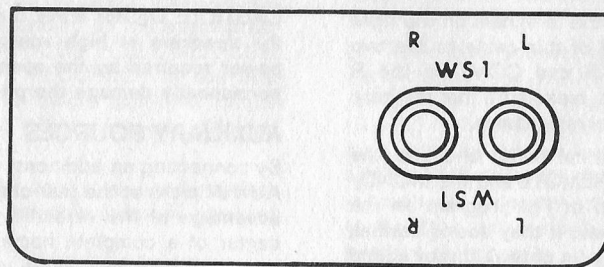

Figure 2. Bottom-Rear Panel of Receiver and WS-1 Bracket.
The built-in dipole antenna is connected to the receiver's FM NORM terminals at the rear of the console (Figure 2). If listening tests reveal that the receiver is being overloaded by a nearby FM transmitter or that the built-in antenna is not adequate for your locality, reception can be greatly improved by changing antenna connections or by replacing the antenna as described in the following paragraphs:
If listening tests reveal that the built-in ferrite-loop antenna is not adequate for AM reception in your locality, connect 10 to 20 feet of flexible, single-conductor wire to the AM terminal at the rear of the console (Figure 2). Run the wire in a straight line along a *non-metallic* baseboard or under a rug; in some cases, reception may be improved even further by draping the antenna wire out a window.
- (1) Turn off the console and disconnect its power cord from the electrical outlet.
- (2) Place the WS-1 speakers to the right and left of the console as described in the WS-1 Operating Instructions.
- (3) There are two WS-1 jacks (marked L and R respectively) bracket-mounted at the rear of the console (Figure 2). Connect the plug on the left speaker's cable to the jack marked L and the plug on the right speaker's cable to the jack marked R.
- (4) Connect the console's power cord to the electrical outlet and turn on the unit.
The REMOTE SPKR terminals at the rear of the console (Figure 2) provide convenient means for connecting a pair of remote extension speakers. This arrangement will enable you to enjoy stereophonic sound in another room of your home whenever you set the SPEAKERS switch on the control panel to REMOTE.
By connecting an additional *high-level* stereo or mono source to the AUX IN jacks at the rear of the console (Figure 2), you may take full advantage of the versatility of this unit and use it as the control center of a complete home entertainment system; in most cases, there will be a noticeable improvement in the sound quality of the auxiliary source. The following are examples of the types of devices that can be connected to these jacks:
Your FISHER console has provisions for connecting a tape recorder or tape deck (stereo or mono) so that you may record any program source to which you are listening. Use Figure 2 as a guide and proceed as follows:
(1) Install the SPACEEXPANDER in a suitable location as described in its Instruction Manual.
(2) Remove the jumper wires that connect each set of REVERB IN and OUT jacks together at the rear of the console (Figure 2), but keep them for reuse in case you decide to disconnect the SPACEEXPANDER in the future. *Either these wires or the SPACEEXPANDER must be connected to the IN and OUT jacks; otherwise, all program sources played through the console will be silenced.*
(3) Connect the console's left-channel (L) OUT jack to the SPACEEXPANDER'S channel A OUTPUT jack.
(4) Connect the console's right-channel (R) OUT jack to the SPACEEXPANDER's channel B OR C OUTPUT jack.
(5) Connect the console's left-channel (L) IN jack to one of the channel A INPUTS on the SPACEEXPANDER.
(6) Connect the console's right-channel (R) IN jack to one of the channel B INPUTS on the SPACEEXPANDER.
(7) Operate the SPACEEXPANDER as described in its Instruction Manual; adjust all console controls in the usual manner to suit your personal tastes and listening conditions.